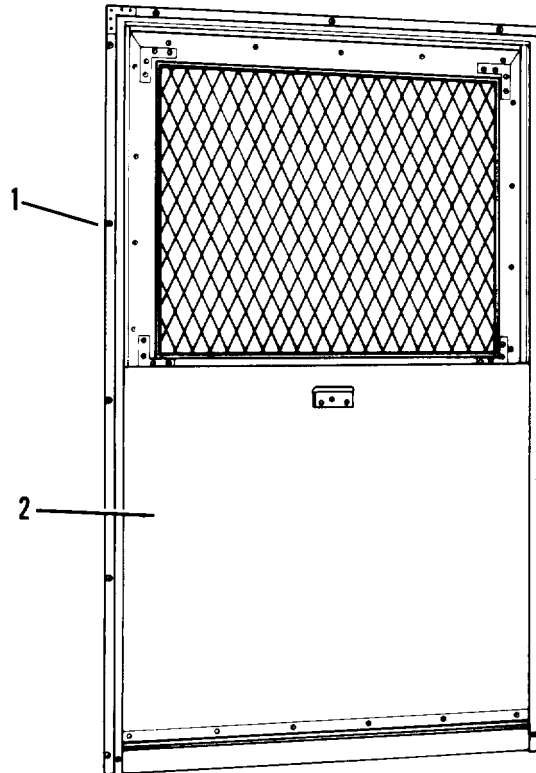

Figure 4-47. Blackout cover and window
- (1) Remove 15 screws (1, figure 4-47) around outside of blackout cover (2) frame. Remove blackout cover frame.
- (2) Lift off blackout cover (2).
- (1) Position blackout cover (2, figure 4-47) over window and match holes. Install blackout cover frame.
- (2) Secure blackout cover (2) with 15 screws inserted around outside of blackout cover frame.